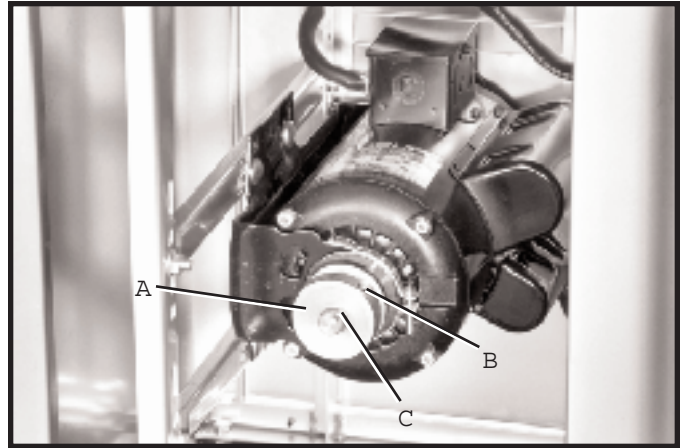

Fig. 14
Assemble motor pulley (A) Fig. 14, to the motor shaft making certain set screw (B) in the motor pulley engages with key (C) in motor shaft.